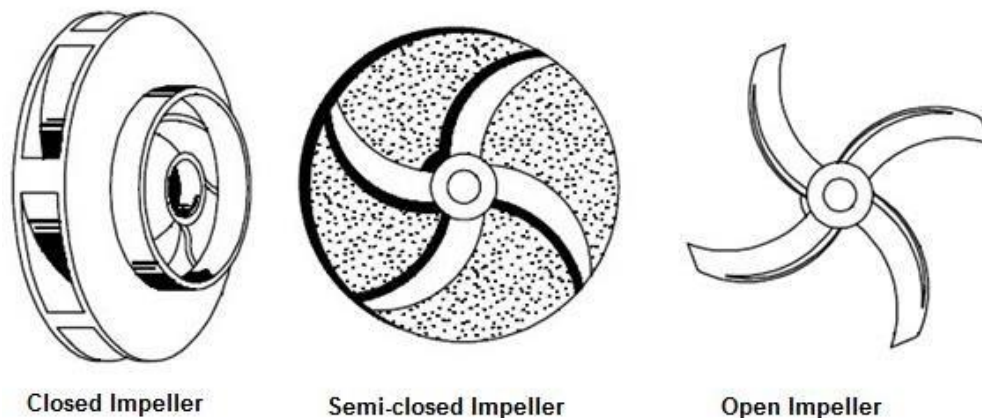

Fig. 6.3 Classification based on type of impeller
**Answer:** Based on the type of impeller centrifugal pumps are classified as closed impeller pump, semi-closed (semi-open) impeller pump and open impeller pump as shown in figure 6.3.